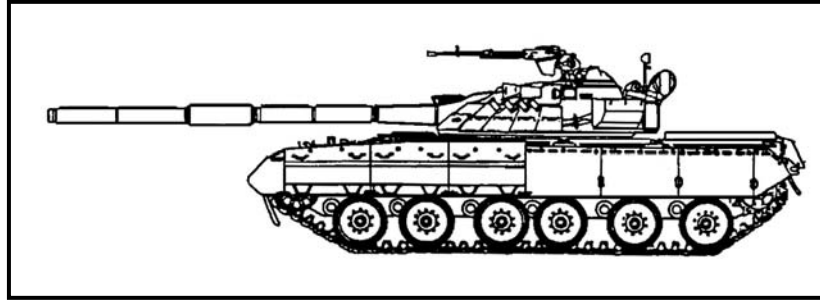

Figure H-4. Russian main battle tank, T-80U.
(4) *Russian Main Battle Tank, T-80U* (Figure H-4).